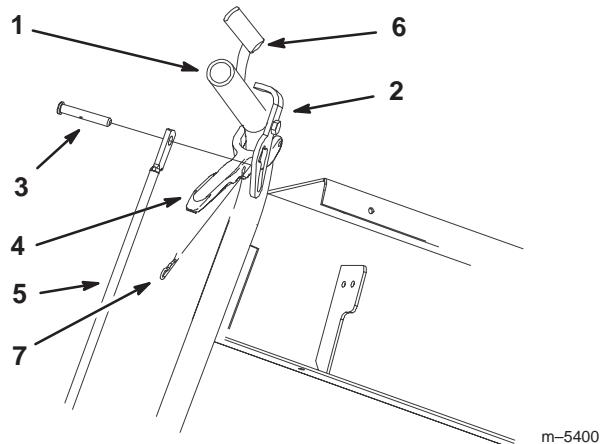
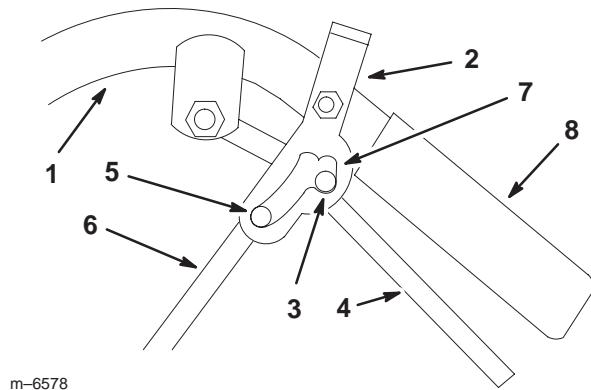

Figure 56
Figure 57
4. Place the left neutral lock in the full forward position (Fig. 57) and move the speed control lever to the neutral position (Fig. 47).
- Place the right drive lever in the full forward position (Fig. 57).
5. Squeeze one drive lever until an **increased** resistance is felt (Fig. 57). **This is neutral position.** This is where the clevis pin in the yoke comes to the back end of the slot in the control arm bracket.
- Note:** Make sure you have not reached the end of the neutral lock slot (Fig. 57). If you have, shorten the control rod. Refer to Adjusting the Control Rod on page 44.
10. Release the drive lever to the forward drive position and squeeze back into the neutral position (Fig. 57). Check to see if the wheel stops. If not, repeat steps 8 and 9.
1. Adjust the rod length by releasing the drive lever and removing the hairpin cotter pin and clevis pin (Fig. 56). Rotate the rod in the rod fitting (Fig. 57).
4. Place the clevis pin in to the drive lever (Fig. 56).
6. Install hairpin cotter between drive levers and neutral locks and into clevis pins (Fig. 56).